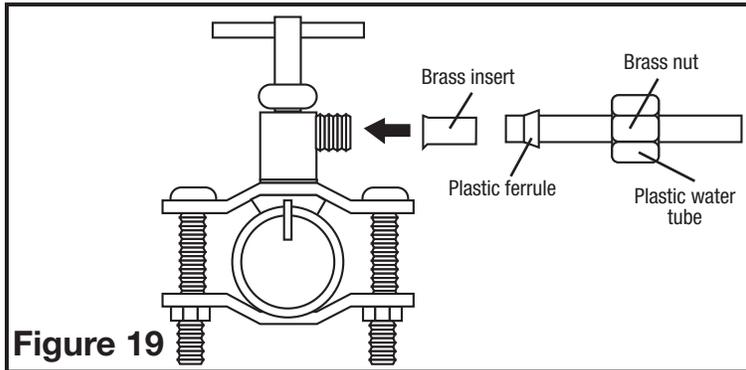

Figure 19
4. Select the most convenient location for connecting the selfpiercing needle valve on a cold water pipe. Connect the needle valve as shown (Figure 19). The hardware shown is supplied in the needle-valve kit. Once the the valve is connected to a pipe as shown, TURN THE VALVE CLOSED ALL THE WAY, and then open so water can flow to the humidifier. Check all fittings for leaks and tighten/repair if necessary.